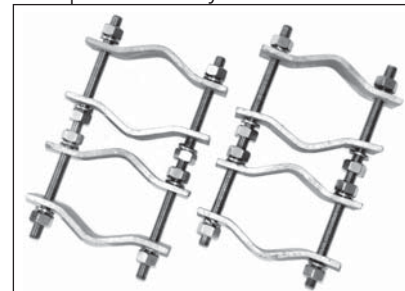

Figure 3: Assembly
3. Attach and secure the lower antenna clamp with supplied hex nuts and lock washers, and tighten both clamps to provide reasonable pressure to the support structure and antenna base ferrule (Figure 3).